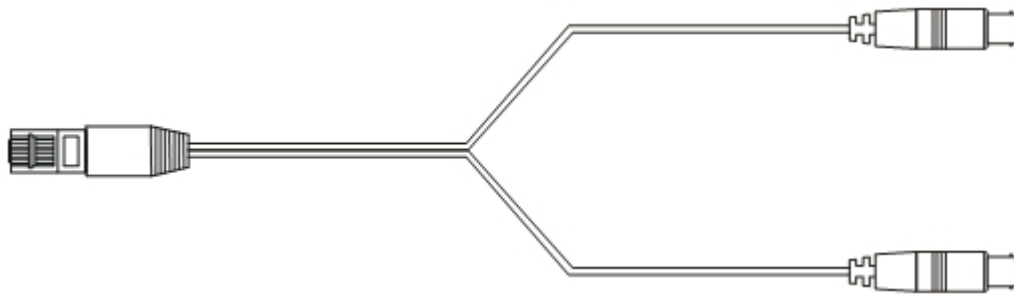

Figure B-2: Unbalanced E1 adapter cable (Y Splitter)
**Figure B-2** shows an adapter cable for connecting devices with balanced E1 interface to the user equipment with unbalanced E1 interface. The Y splitter cable includes one RJ-45 balanced connector (left) and two unbalanced BNC coaxial connectors (right).